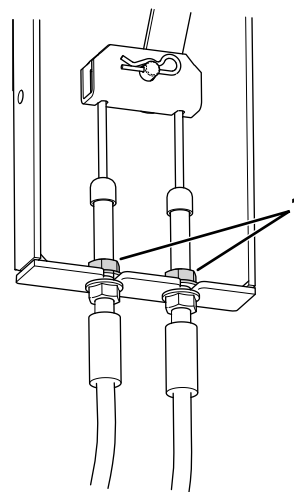

Figure 76
3. Locate the brake-cable mount (Figure 76) under the left side of the machine near the left wheel.